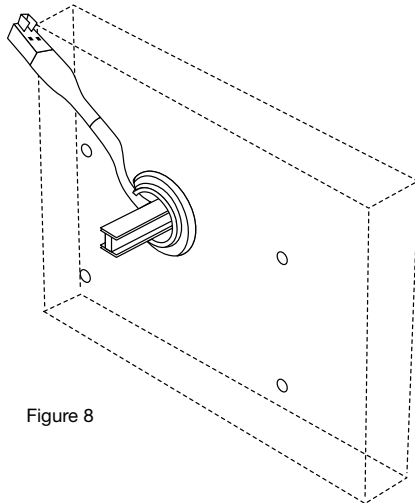

Figure 8
2. Install entry device according to LA GARD instructions (p/n 762.128); the spindle should extend .350" (9mm) from the mounting surface (Figure 8).